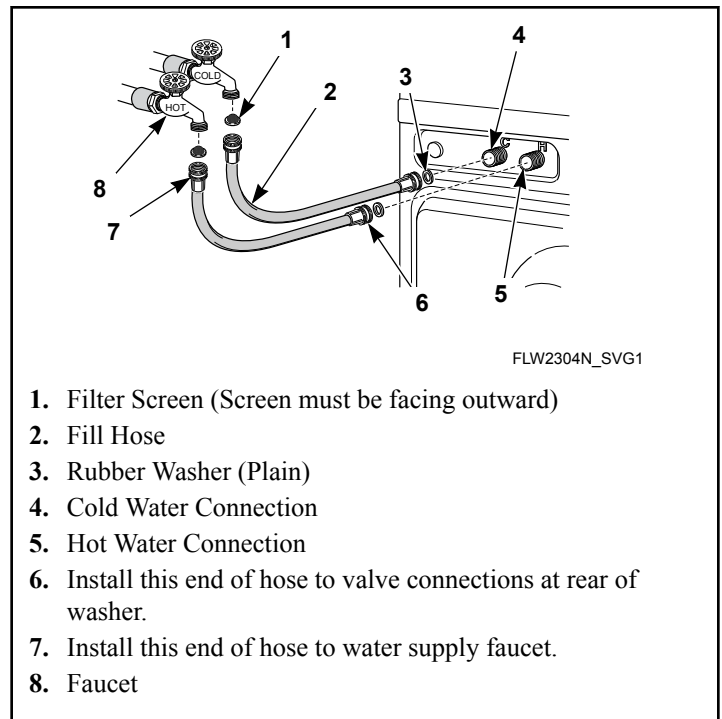

Figure 7
2. Install them into each end of the fill hoses as shown in *Figure 7*. The screen must be facing outward.
5. Screw hose couplings from other end of hoses onto the water mixing valve until they are finger-tight. Make sure the red color-coded hose from the hot water faucet goes to the water mixing valve marked "H" and the blue color-coded hose from the cold faucet goes to the valve marked "C". Refer to *Figure 7*.